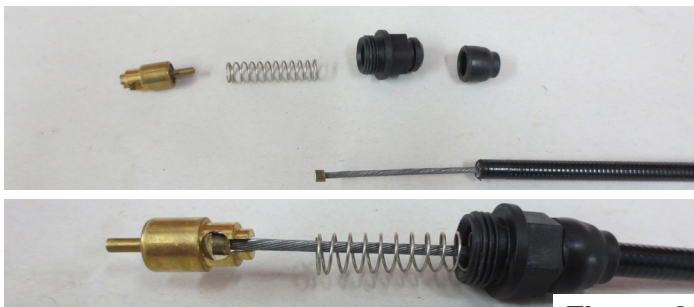

Figure 8
- 8) On the other end of the shorter choke cable, install a dust boot, holder, spring and finally the plunger. The dust boot will fit snugly over the cable housing and the holder. Insert the crimped on cable end into the plunger. Carefully slide the dust boot and holder back toward the cable end. The spring tension should hold the plunger on the cable end. Figure 8.
Figure 8 cont.